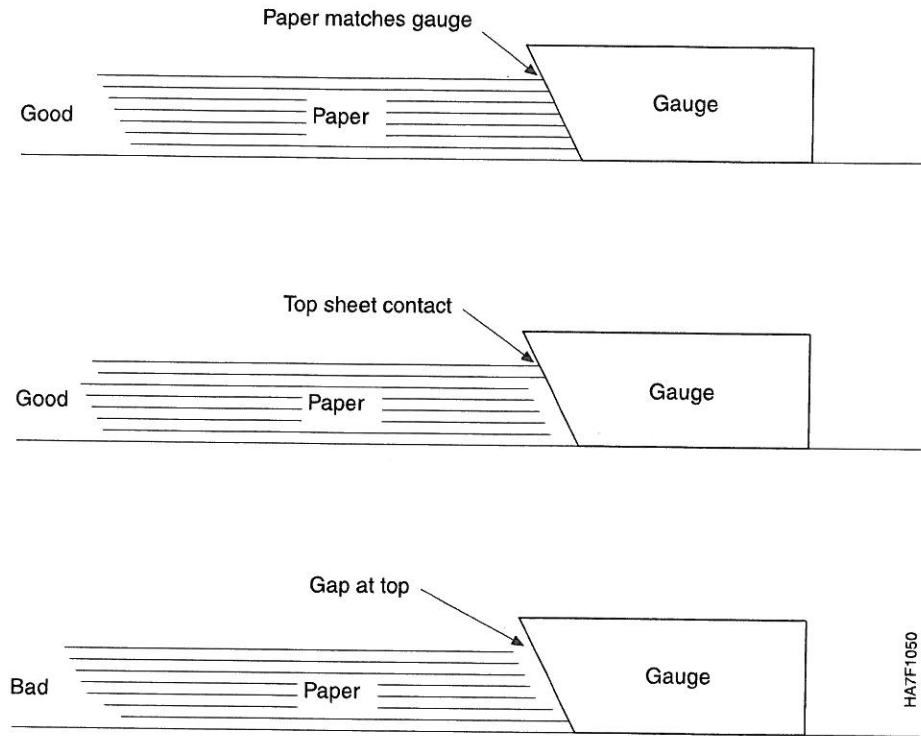

Figure 5. Stack Lean Test for Packaged Forms
3. Without compressing the folds, place the loosely back-folded stack on a flat surface (see Figure 5 on page 10).
5. Select the area of worst lean along one side and apply finger pressure to remove all the air between the sheets. Use the gauge (PN 4792992, supplied by IBM) to test the stack lean as shown in Figure 5 on page 10.